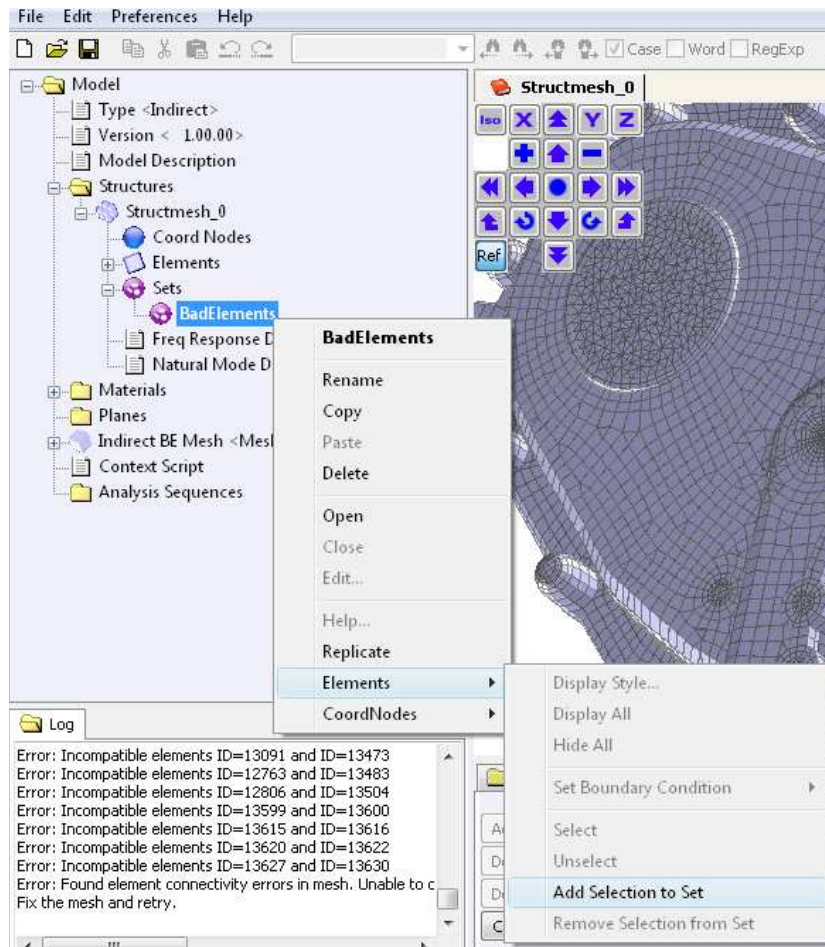

Figure 5.21: Add Bad Elements to a Set.
- Create a new set by choosing **Model** → **Structures** → *<Structure Mesh Name>* → **Sets**. Right-click on **Sets** and select **New**. Rename the new set to *<Bad Elements Set>*. To add Bad Elements right-click on *<Bad Elements Set>* and select **Elements** → **Add Selection to Set**. (Figure 5.21)